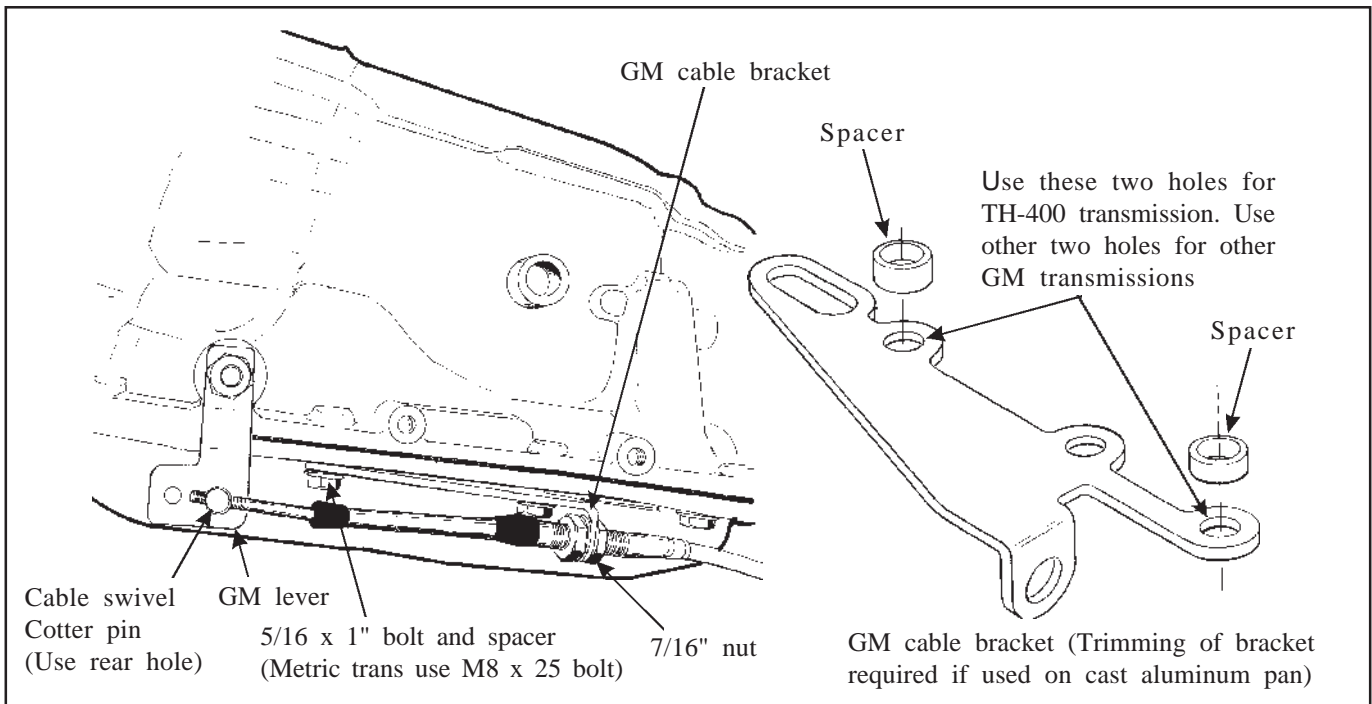

Figure 4
**STEP 8.** If you have not already done so, remove the stock selector lever nut and selector lever. Discard stock lever and stock shifter linkage. Install **B&M** selector lever in position using stock selector lever nut, see **figure 4**. Torque nut to 23 lb. ft. The lever should move smoothly from front to rear with a positive click in each gear position.
**STEP 9.** Remove two transmission oil pan bolts from the middle of the left side of the oil pan. Install cable bracket in position, see **figure 4**.) The bracket must be installed with two spacers between the pan and bracket. (If your transmission is equipped with a cast aluminum oil pan, these spacers should be omitted however the cable bracket may have to be modified.) Install the two 5/16-18 x 1.00" bolts supplied and tighten 12-13 lb-ft. Do not over-tighten as this can damage pan gasket.